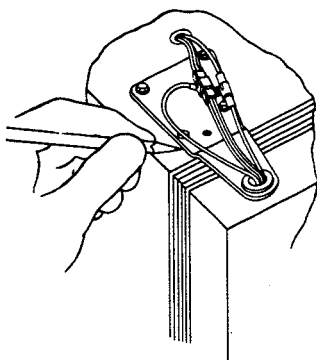

FIGURE 22
- 7. Mark the location of the hinges with a pencil on the painted cabinet prior to removing hinge. See Figure 22.